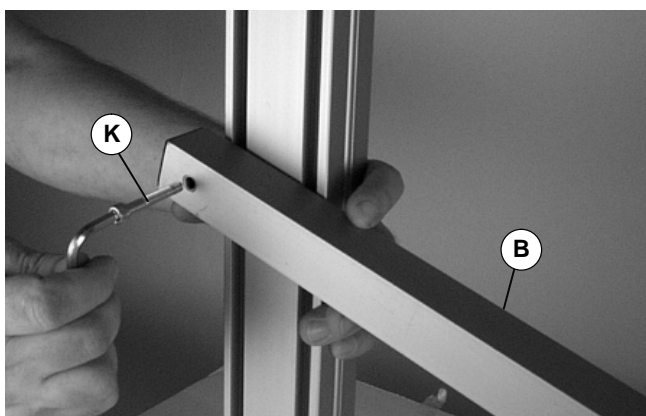

Figure 13
3. Loosely attach adjustable bar (B of Figure 13 or 14) to 90° bracket or aluminum stand T-slot as required.
- Attach outer tube end with screw (K of Figure 13)